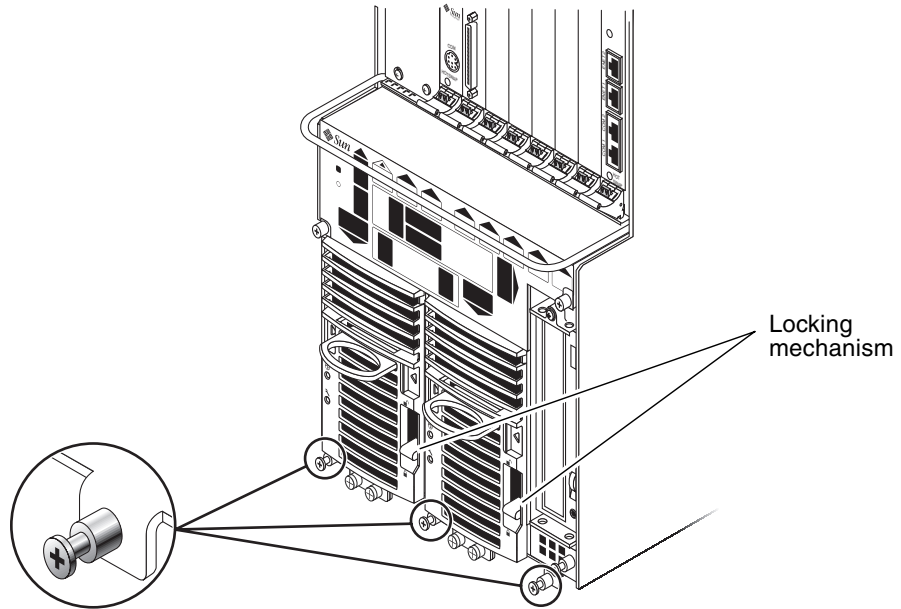
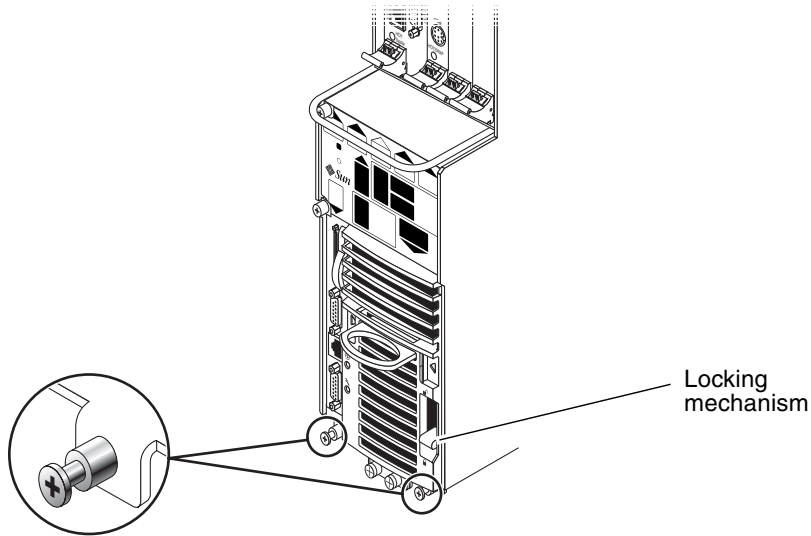

FIGURE 4-6 Tightening the Screws at the Bottom of a Netra CT 810 Server
FIGURE 4-7 Tightening the Screws at the Bottom of a Netra CT 410 Server
- If you are installing a Netra CT 810 server, tighten the *three* black captive screws at the bottom of the server (FIGURE 4-6).
- If you are installing a Netra CT 410 server, tighten the *two* black captive screws at the bottom of the server (FIGURE 4-7).
FIGURE 4-6 shows the location of the two power supply unit locking mechanisms on the Netra CT 810 server, and FIGURE 4-7 shows the location of the single power supply unit locking mechanism on the Netra CT 410 server. Make sure you lock *both* power supply units if you are replacing a Netra CT 810 server.